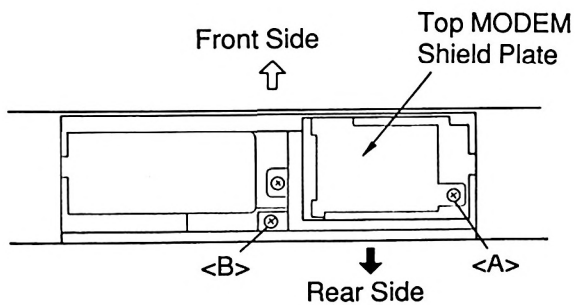

Figure 5
(8) Open the battery cover and remove one screw <A> ($3\text{Ø}\times 6$) fixing the top MODEM shield plate and one screw ($3\text{Ø}\times 10$) as shown in Figure 5.